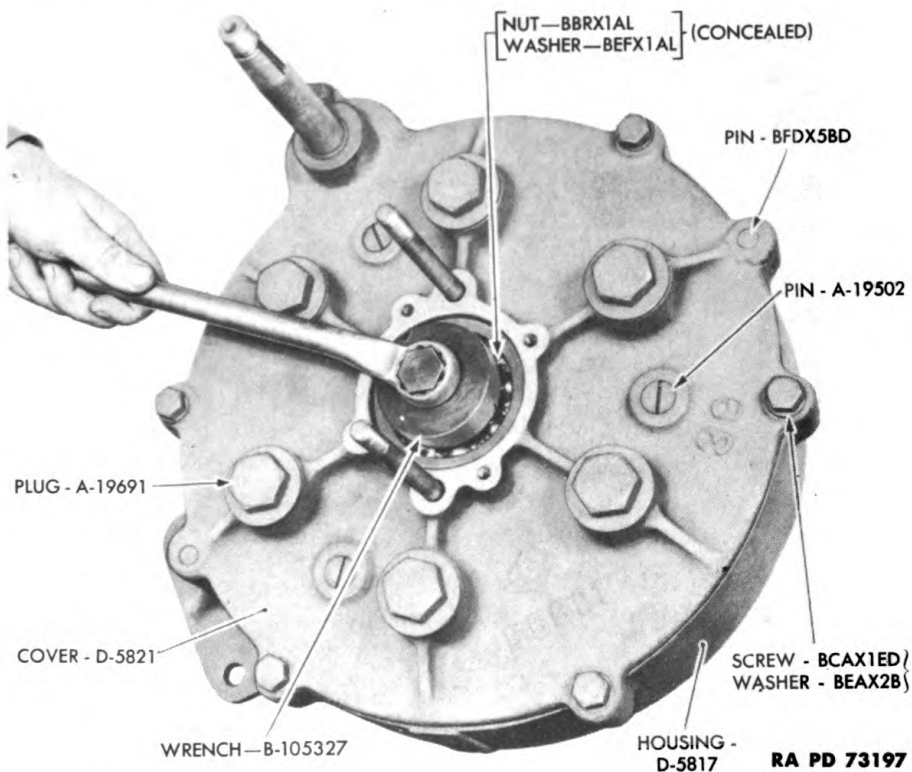

Figure 175—Removing Nut and Washer from Elevating Brake Drum Shaft
(5) Straighten lug on washer BEFX1AL, unscrew and remove nut BBRX1AL with elevation intermediate shaft nut socket wrench B105327 (fig. 175). Remove washer.
(6) Remove six screws BCAX1ED and washers BEAX2B from cover D5821 (fig. 175). Loosen these screws evenly all around. Do not remove one at a time, as this releases compression on springs under plugs A19691. Pry cover away from housing D5817 and off pins BFDX5BD.